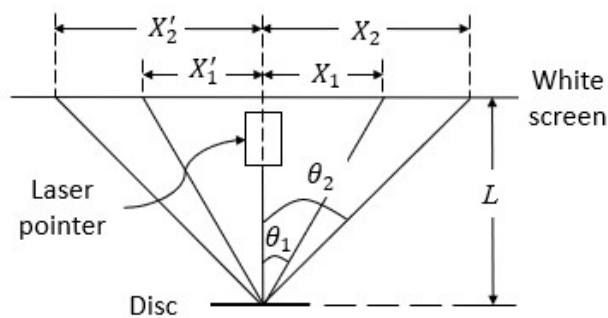

Figure 2
1. Use clay to fix the laser pointer onto a cardboard box so that it faces the white screen perpendicularly. Mount the CD vertically on the box using tape, as shown in Figure 2.